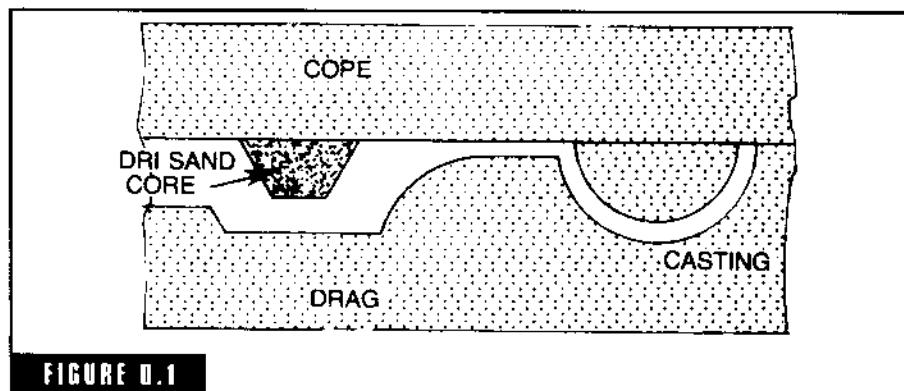

FIGURE D.1
**dam gate** A gate constructed with a dam to effect a ready choke and skimmer (Fig. D-1). It is usually made with a triangular core which sets in a suitable print.